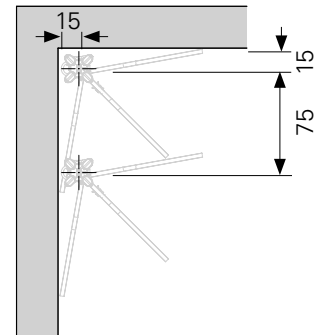

Fig. D2.01a
Set up the first prop in the corner with a distance of 15 cm from both walls. (Fig. D2.01a)
2. Set up the second prop at the shorter wall with a spacing of 75 cm to the first prop. (Fig. D2.01a)